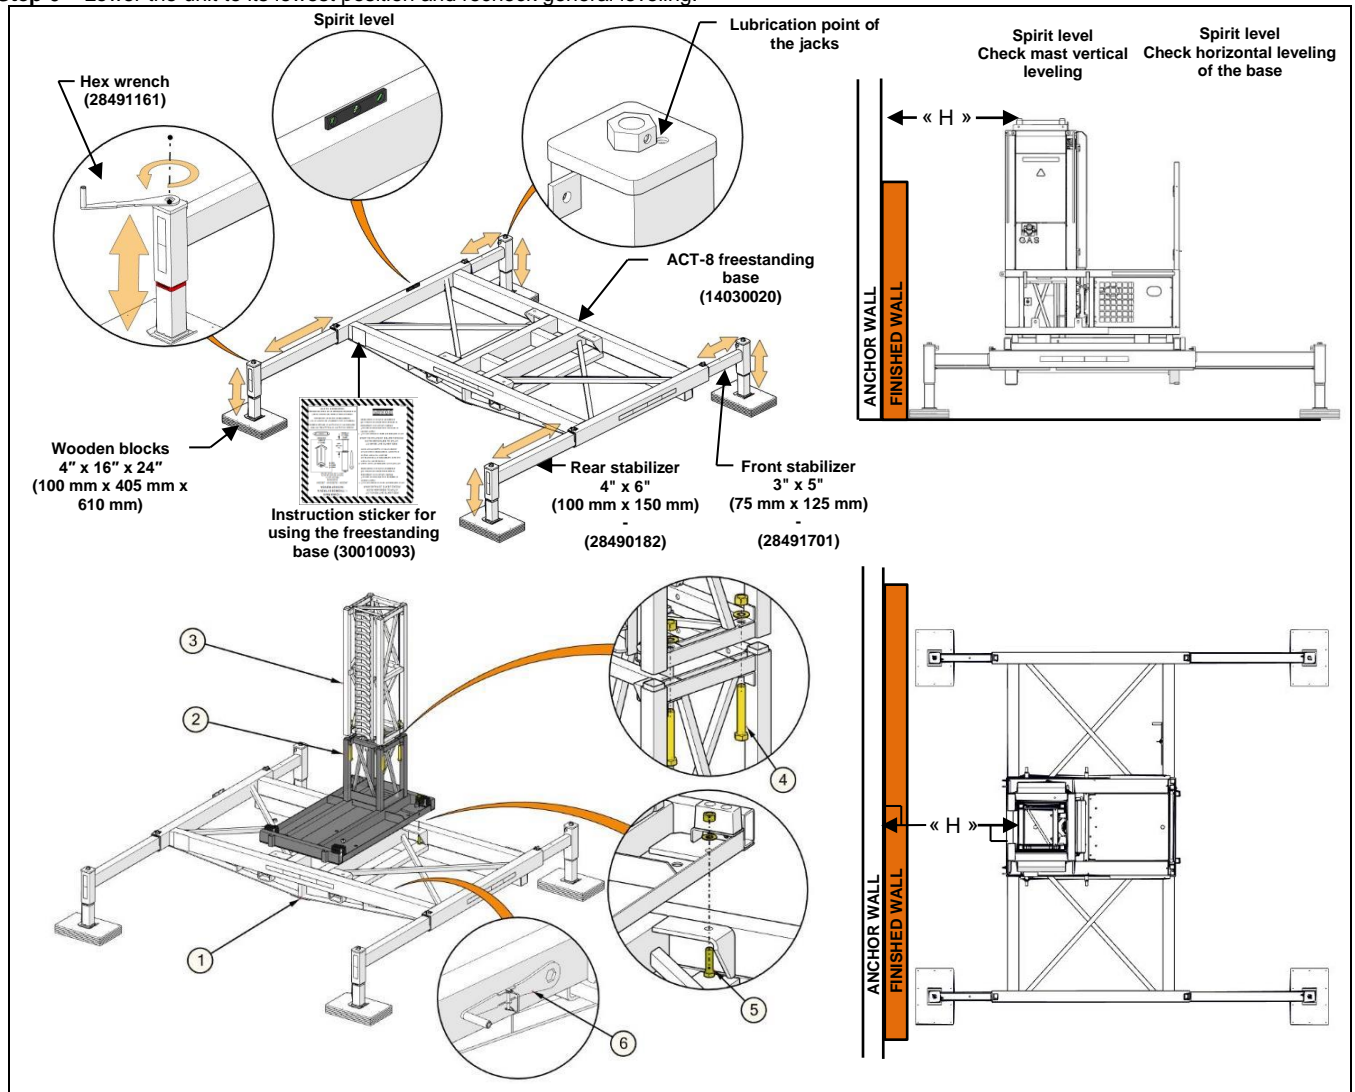

Figure 54 - Installation of ACT-8 freestanding base
**Step 4** – Install the ground base (14030019) directly onto the ACT-8 freestanding base (14030020) as shown in *Figure 54*. Then, bolt the first mast section of the lifting unit (13030018) to the ground base (14030019).